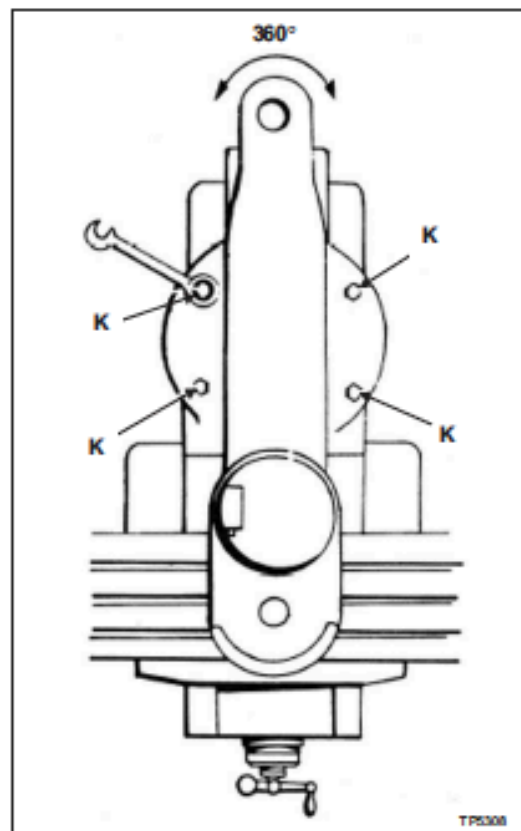

Figure 2.24 - Swivel Turret
1. Use wrench supplied with machine to loosen the four bolts "K", Figure 2.24.